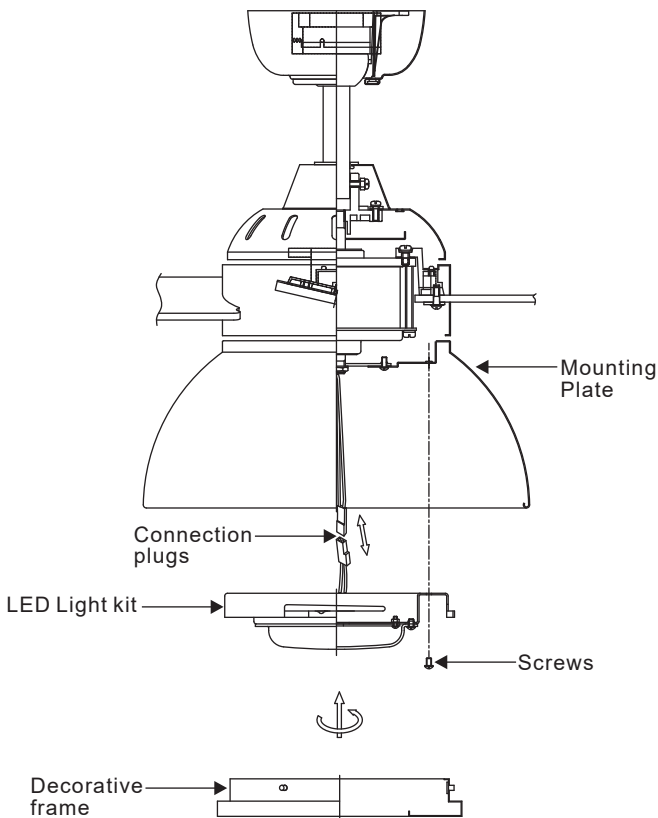

Figure 13
**Step 1.** Remove the four light kit mounting screws from the posts of the mounting plate. (Fig. 13)
**Step 3.** Place the LED light kit to the mounting plate with the four light kit mounting screws previously removed. Securely tighten the four light kit mounting screws. (Fig. 13)
**Step 4.** Raise decorative frame up against the LED light kit, and secure it to fan by turning decorative frame clockwise until snug. Do not overtighten. (Fig. 13)